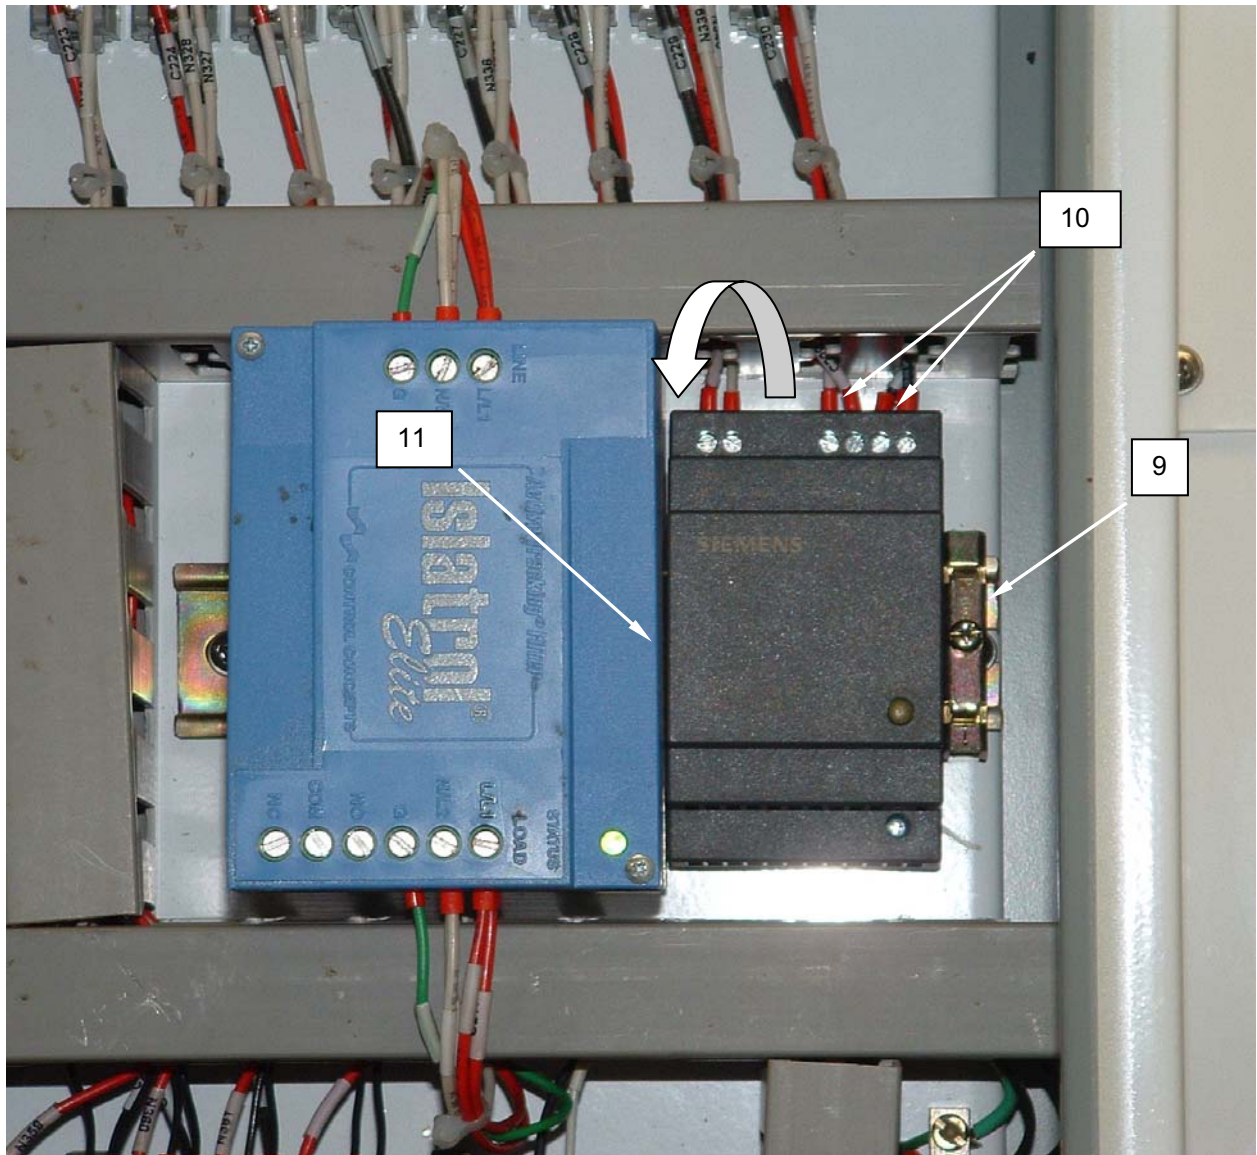

Figure 5. Replace DC Power Supply.
3. Loosen the screw retaining the clip (**Figure 5, Item 9**) and remove the clip.
4. Tag and disconnect wiring at terminals (**Figure 5, Item 10**) from DC power supply (**Figure 5, Item 11**).
5. Remove DC power supply (**Figure 5, Item 11**) by grasping the power supply and pulling the top of the power supply out while pushing the lower part of the power supply in with the heel of your hand.
6. Install replacement DC power supply (**Figure 5, Item 11**) by engaging the lower part of the power supply first, and then applying pressure to the top with your hand.
7. Install the clip (**Figure 5, Item 9**) and retain with screw.
8. Connect wiring to replacement DC power supply (**Figure 5, Item 11**) as tagged.